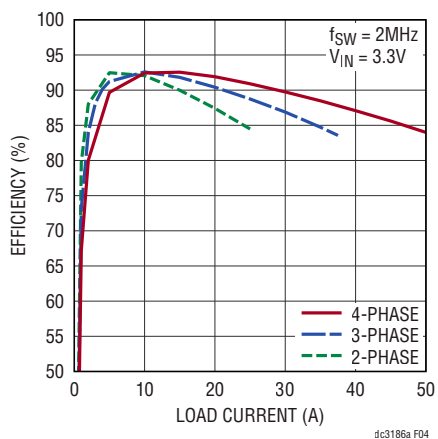

Figure 5. Efficiency vs Load Current
9. Measure the I_STEP voltage to observe the current, $V_{I_STEP}/10m\Omega$. Adjust the amplitude of the pulse to provide the desired transient. Adjust the rising and falling edge of the pulse to provide the desired ramp rate. Figure 5 shows a load step from 10A to 20A in 1 μ s. Refer to the following equations: